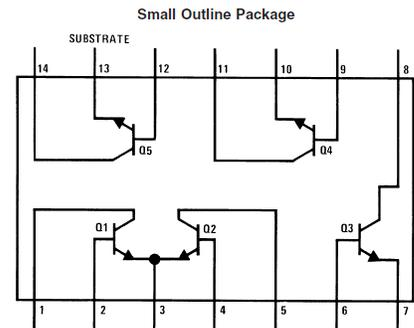

Fig. 1: Remember to connect Pin 13 to $-10V$!!!
- Ground both V_{IN1} and V_{IN2} (see Fig. 1).